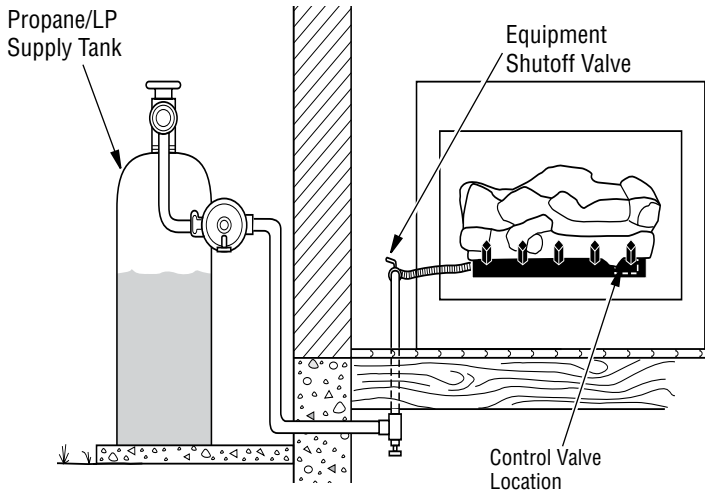
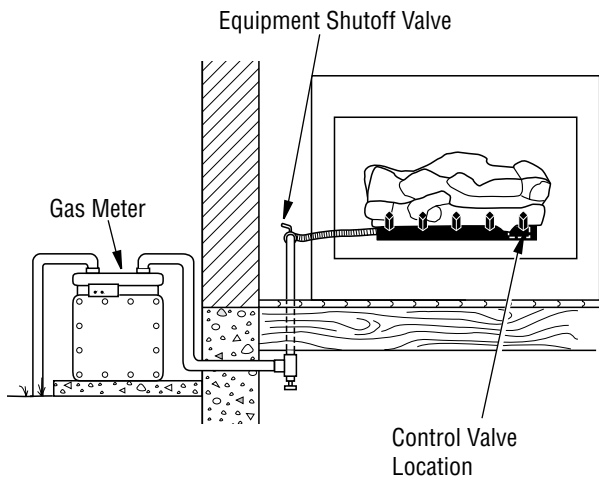

Figure 14- Checking Gas Joints (Propane/LP Only)
Figure 15 - Checking Gas Joints (Natural Gas Only)
3. Check all joints from gas meter to equipment shutoff valve for natural gas or propane/LP supply to equipment shutoff valve for propane/LP (*see Figure 14 or Figure 15, Page 11*). Apply noncorrosive leak detection fluid to all joints. Bubbles forming show a leak.
4. Check all joints from gas meter to equipment shutoff valve for natural gas or propane/LP supply to equipment shutoff valve for propane/LP (*see Figure 14 or Figure 15, Page 11*). Apply noncorrosive leak detection fluid to all joints. Bubbles forming show a leak.